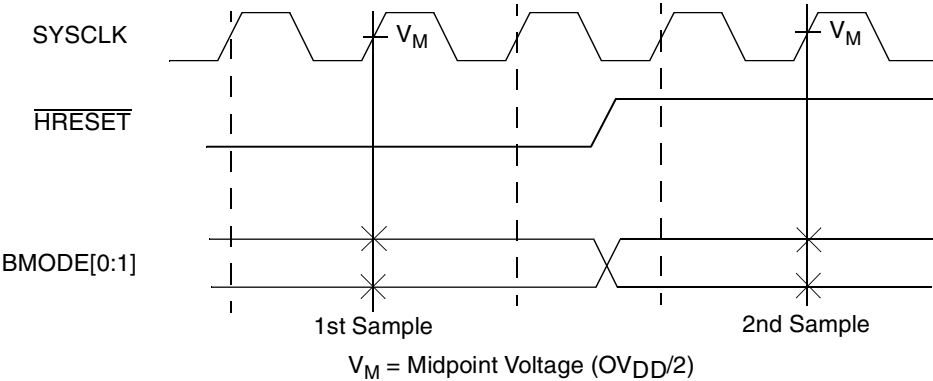

Figure 5. $\overline{\text{BMODE}}[0:1]$ Input Sample Timing Diagram
8. $\overline{BMODE}[0:1]$ and $BVSEL[0:1]$ are mode select inputs. $\overline{BMODE}[0:1]$ are sampled before and after \overline{HRESET} negation. $BVSEL[0:1]$ are sampled before \overline{HRESET} negation. These parameters represent the input setup and hold times for each sample. These values are guaranteed by design and not tested. $\overline{BMODE}[0:1]$ must remain stable after the second sample; $BVSEL[0:1]$ must remain stable after the first (and only) sample. See Figure 5 for sample timing.
Figure 5 provides the $\overline{\text{BMODE}}[0:1]$ input timing diagram for the MPC7448. These mode select inputs are sampled once before and once after $\overline{\text{HRESET}}$ negation.